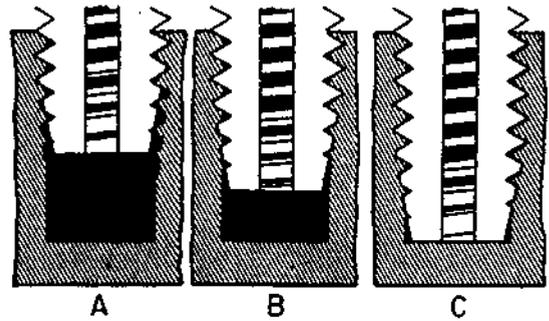

Figure 17-38. Use of Plug Tap After Taper Tap
i) The procedure for the taper tap also applies to the plug tap, as shown in Figure 17-38.